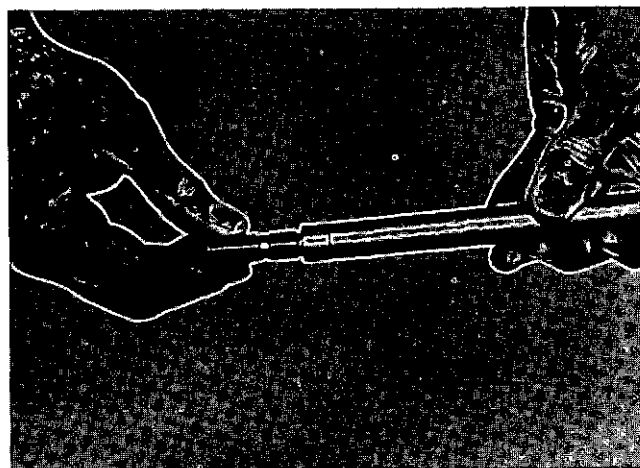

Fig. 3-2-3, N20310. Checking push tube socket with adjusting screw
3. Check socket of push tube with ball end of a new rocker lever adjusting screw, Fig. 3-2-3, or with a 1/2 inch [12.7000 mm] check ball which should "blue in" 80% of seat area; spherical inside diameter new is 0.5050 to 0.5200 inch [12.8270 to 13.2080 mm].